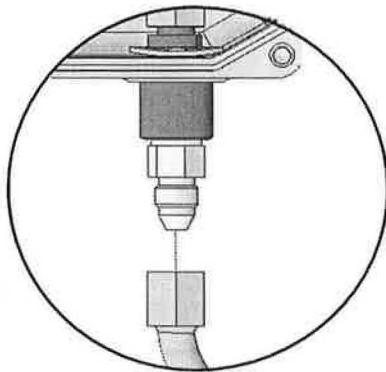

Figure 5-1. High-Pressure Nitrogen Tubing Location, Close Up
1. Disconnect the high-pressure nitrogen tubing from the UCH Control System (see Figure 5-1).